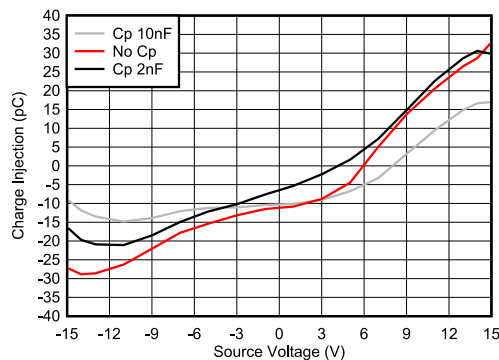

图 9-2. Charge Injection Compensation
The TMUX720x contains specialized architecture to reduce charge injection on the Drain (D). To further reduce charge injection in a sensitive application, a compensation capacitor (C_p) can be added on the Source (S_x). This will ensure that excess charge from the switch transition will be pushed into the compensation capacitor on the Source (S_x) instead of the Drain (D). As a general rule of thumb, C_p should be 20x larger than the equivalent load capacitance on the Drain (D). 图 9-2 shows charge injection variation with different compensation capacitors on the Source side. This plot was captured on the TMUX7219 as part of the TMUX72xx family with a 100 pF load capacitance.